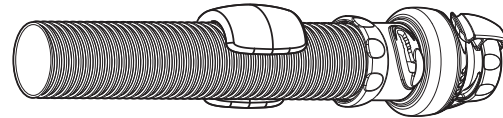

Figure 6. Connect the FRV
1. Ensure that the flow regulator valve (FRV) (c) is connected to the leader hose (h). The leader hose (h) is the hose section with foam float attached. Depending on your hose type, you may also require the FRV adapter (g) to connect (Figure 6).